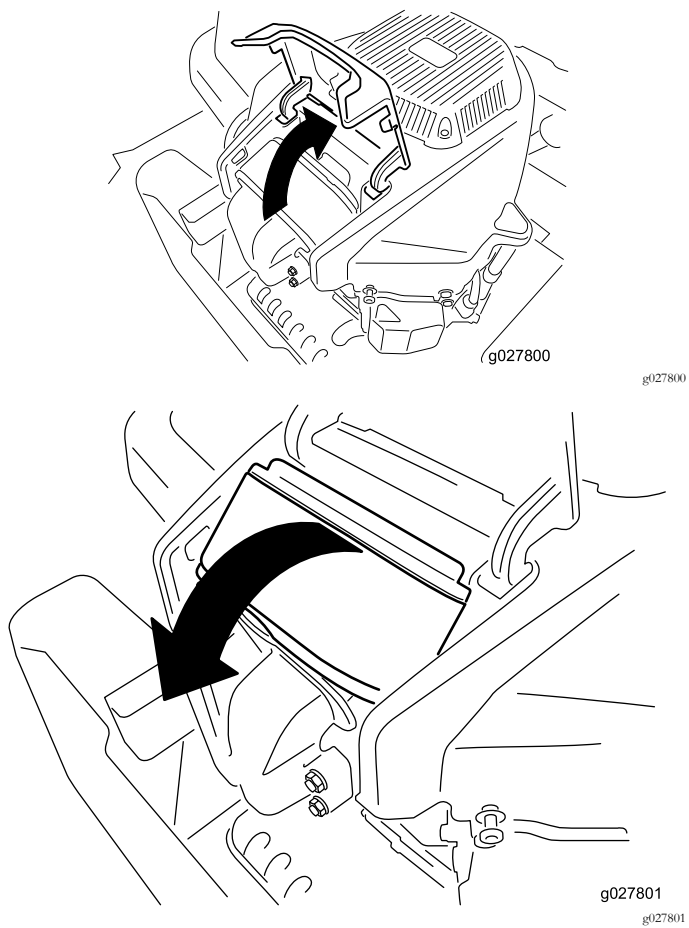

Figure 35
4. Lift the cover and rotate the air-cleaner assembly out of the engine (Figure 35).